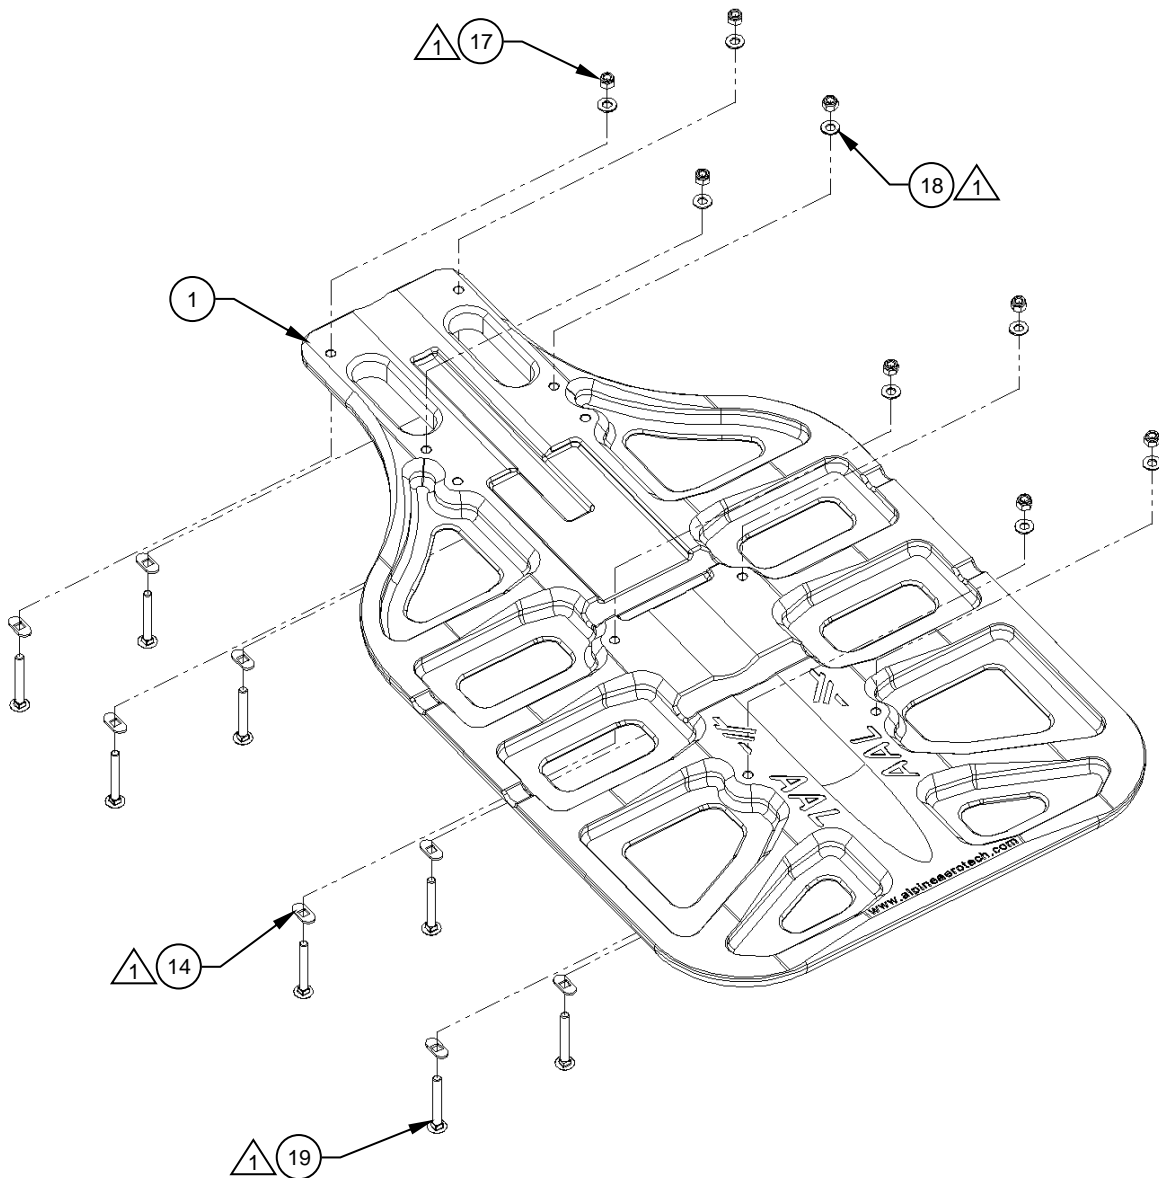

Figure 5
1. Pre-install the supplied hardware as shown. Reference Figure 5.